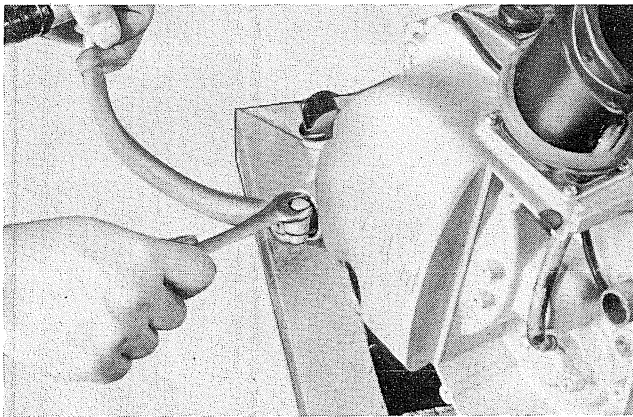

Fig. 3-7-1
- 1) Remove the kick starter crank clamping bolt, and remove the kick starter crank. (Fig. 3-7-1)